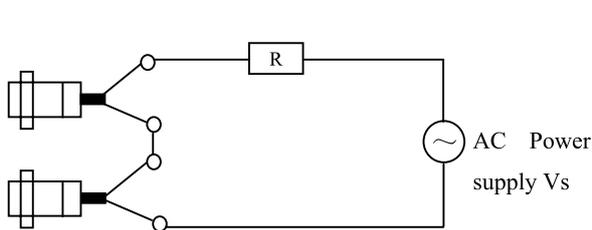
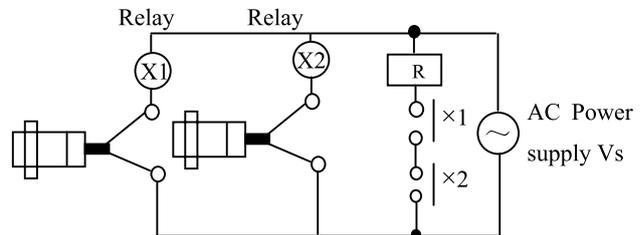

Figure 7
Figure 8
5. If the number of serial connect sensor (AC) less than three, connect as Figure 7, otherwise, connect as Figure 8.